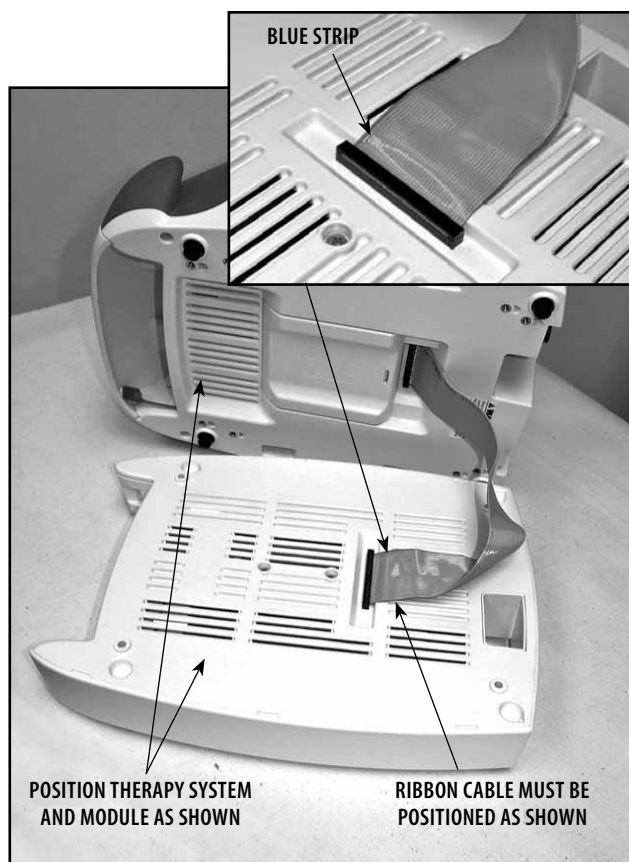

FIGURE 6.5
7. Lay Therapy System on its side and position the Module to be installed beside it. Install Ribbon Cable to Module and seat completely on module pins. Make certain the Blue Strip on Ribbon Cable is positioned as shown in Figure 6.5.